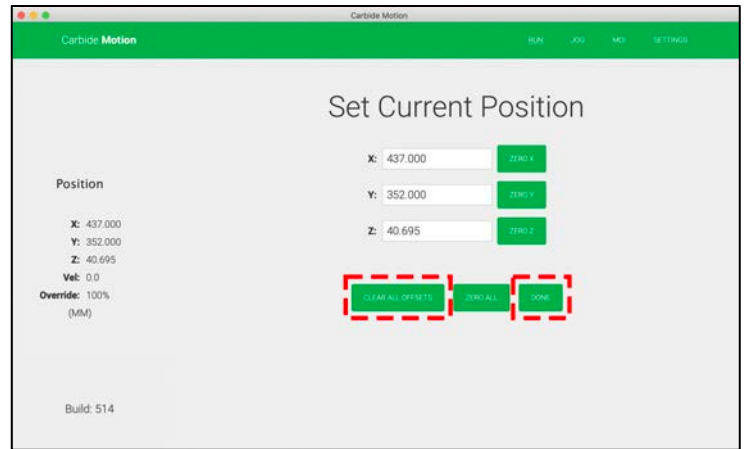

Figure 18
3. Click the **Clear All Offsets** button. Then, click **Done**. See *Fig. 18*.